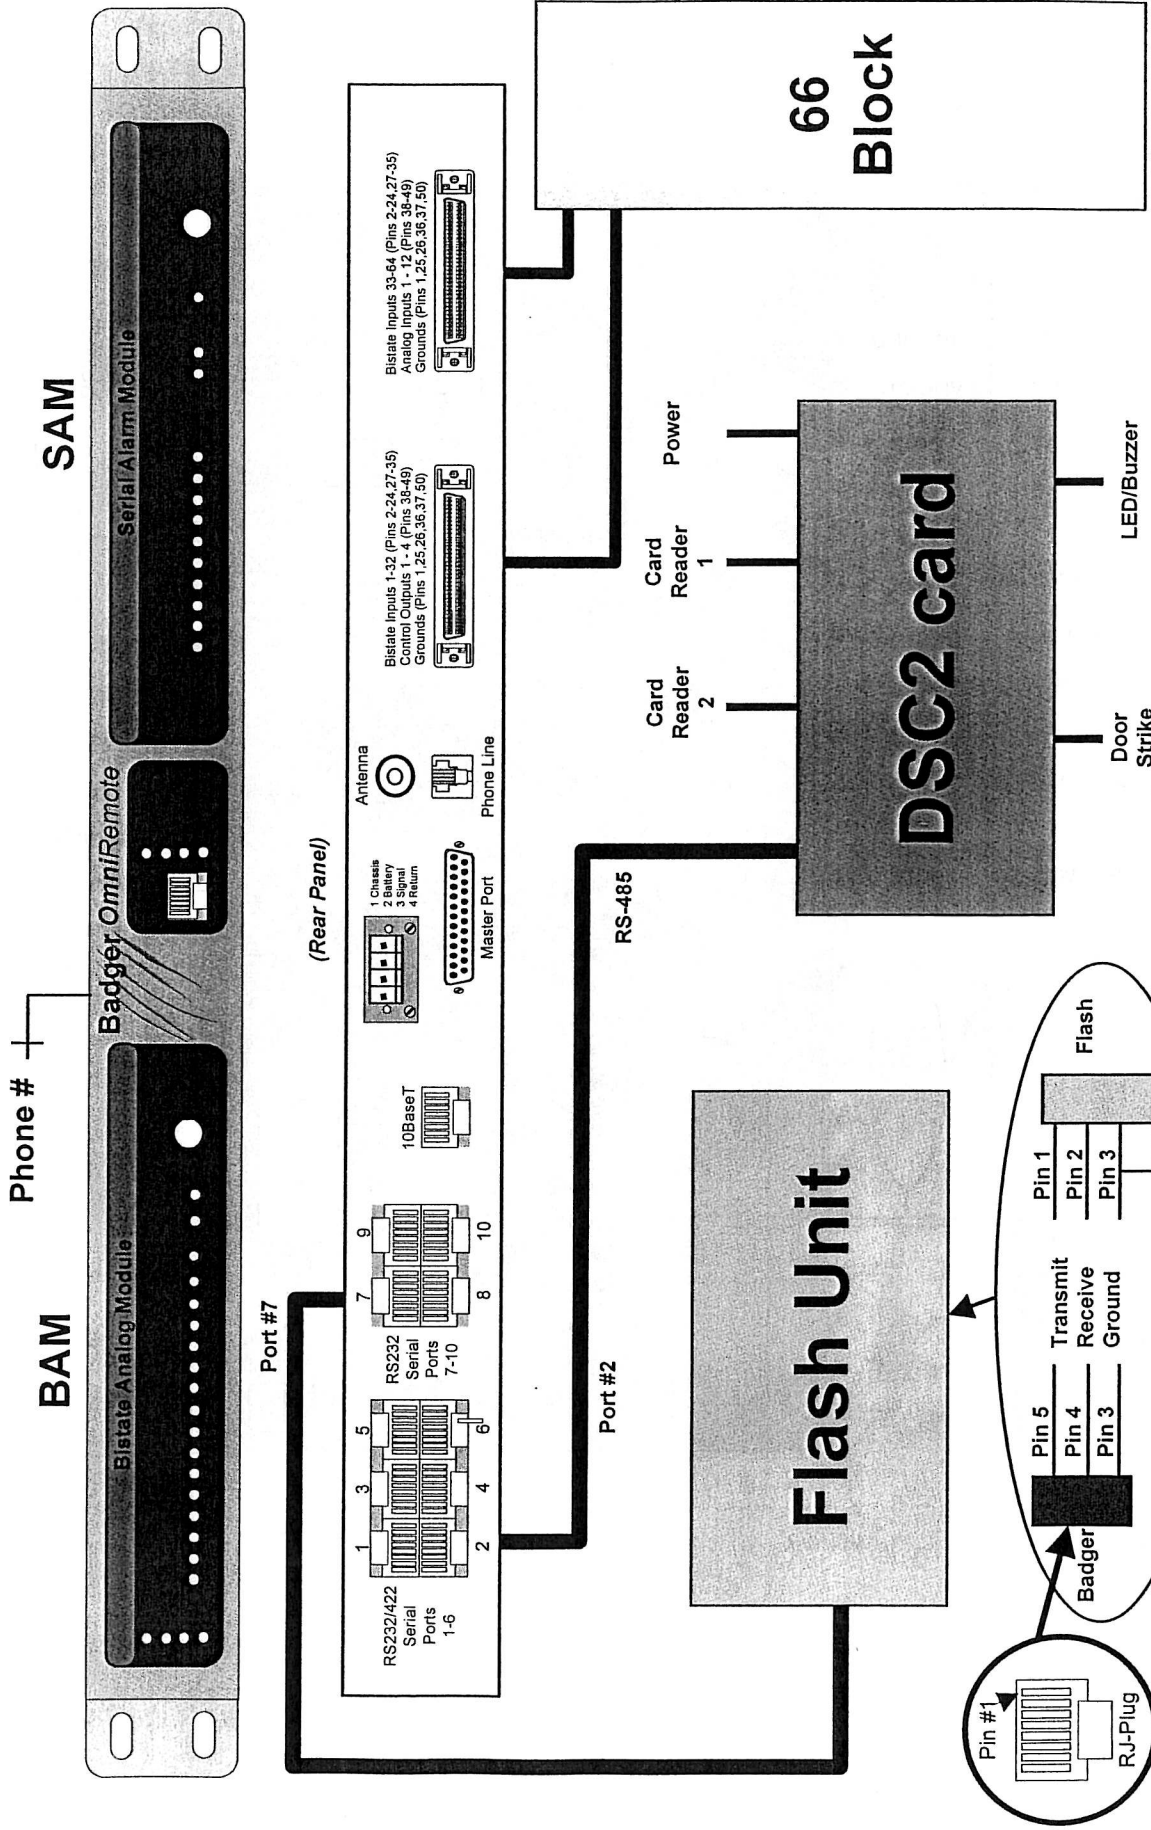

Figure 2
- a. Connect a Cat 5 cross-over cable to the LAN port of the laptop and the other end to the Ethernet port on the SAM board (Figures 2 & 8).